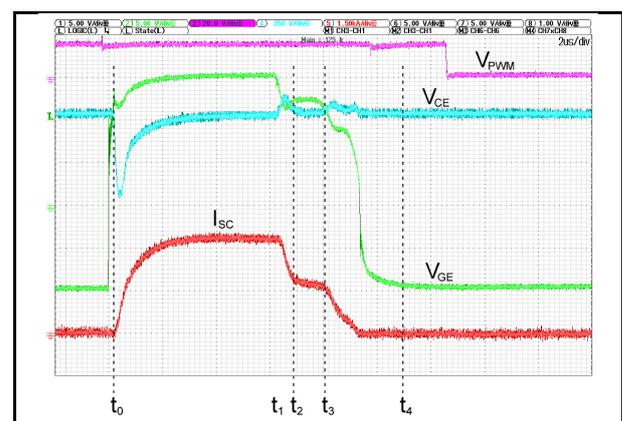

Figure 6. Advanced Soft Shut Down (ASSD).
To ensure that the gate-emitter/source voltage stays close to the nominal turn-on voltage each MAG features a gate-clamping circuitry. The gate clamping provides a voltage similar to  $V_{VISO}$  to the gate, i.e. 15 V. As the effective short-circuit current is a function of the gate-emitter/source voltage the short-circuit current is limited. This is shown in Figure 6 in the time period from  $t_0$  to  $t_1$ , where the short-circuit current is kept at a flat plateau. As consequence the energy dissipated in the power semiconductor during the short-circuit event is reduced, leading to a junction temperature within the short-circuit safe operating area (SCSOA) limits and enables a safe turn-off of the device.
- In the first step, the gate-emitter/source voltage is decreased to a defined level controlled with the closed loop feedback (Figure 6,  $t_1$  to  $t_2$ ).
- The defined level of the gate-emitter/source voltage is kept steady to ramp down the collector/drain current smoothly, i.e. with lower  $di/dt$ , until the gate charge profile of the power semiconductor has reached the end of the Miller plateau. The end of the Miller plateau is detected by evaluating the gate current (Figure 6,  $t_2$  to  $t_3$ ).
- The gate-emitter/source voltage is then reduced to its end value, following a given reference value (Figure 6,  $t_3$  to  $t_4$ ).